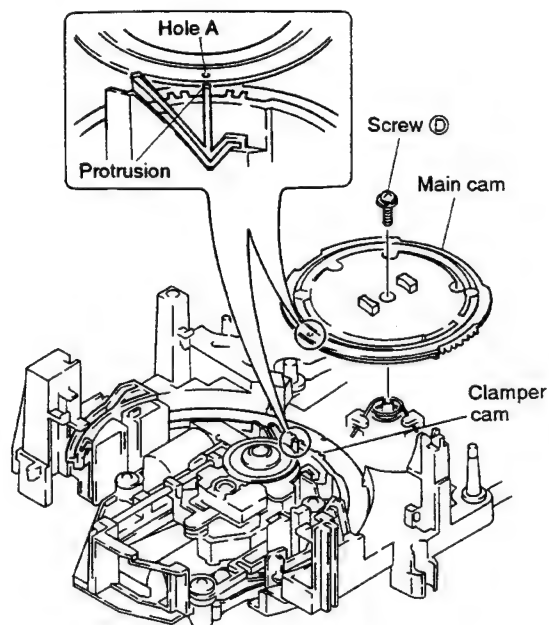

Fig. 2-3
- (1) As shown in Fig. 2-3, attach the main cam, trying to adjust the main cam hole A to the clamber cam protrusion. Next, hold it with screw ①.